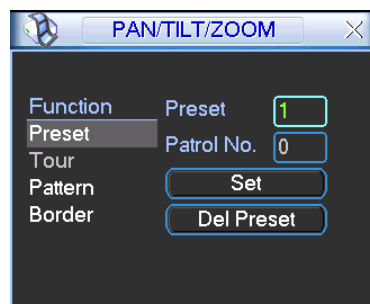
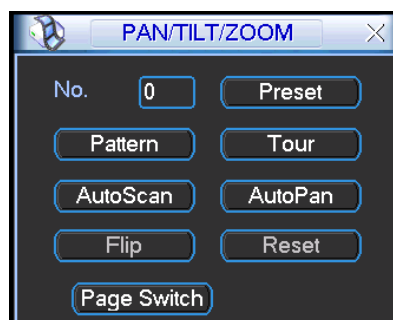

Figure 4-38
Figure 4-39
In Figure 4-35, please click the “set” button. The interface is shown as below. See Figure 4-38.
In Figure 4-35, click page switch button, the interface is shown as in Figure 4-39.
- The following setups are usually operated in the Figure 4-35, Figure 4-38 and Figure 4-39,
In Figure 4-38, click preset button and input preset number. The interface is shown as in Figure 4-40.
In Figure 4-39, please input preset number in the No. blank, and click preset button.
In Figure 4-38, click patrol button. The interface is shown as in Figure 4-41. Input preset number and add this preset to a patrol (tour). For each patrol (tour), you can input max 80 presets.
In Figure 4-38, input patrol (tour) number in the No. blank and click patrol button
In Figure 4-38, click pattern button and then click "begin" button. The interface is shown as in Figure 4-38. Then you can go to Figure 4-35 to modify zoom, focus, and iris.
In Figure 4-39, input mode value in the No. blank, and click pattern button.
In Figure 4-38, click border button. The interface is shown as in Figure 4-43.
In Figure 4-39, click “Auto Scan” button, the system begins auto scan. Correspondingly, the auto scan button becomes Stop button. Click stop button to terminate scan operation.
In Figure 4-39, click page switch button, you can see an interface is shown as below. See Figure 44 . Here you can set auxiliary function. The aux value has relation ship with the Aux button of the decoder.